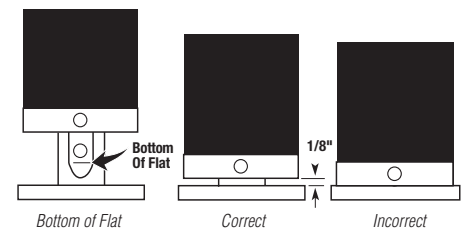

Figure 32
Step 4: Remove set screws on coupler. Coat set screw threads with thread sealant. Reinstall coupler to pump cartridge with set screw facing flat side of shaft. Tighten screw so coupler slides on shaft but stops at bottom of flat. Tighten until screw head is flush with coupler. Coupler should be approximately 1/8" off trap surface (**Figure 32**).